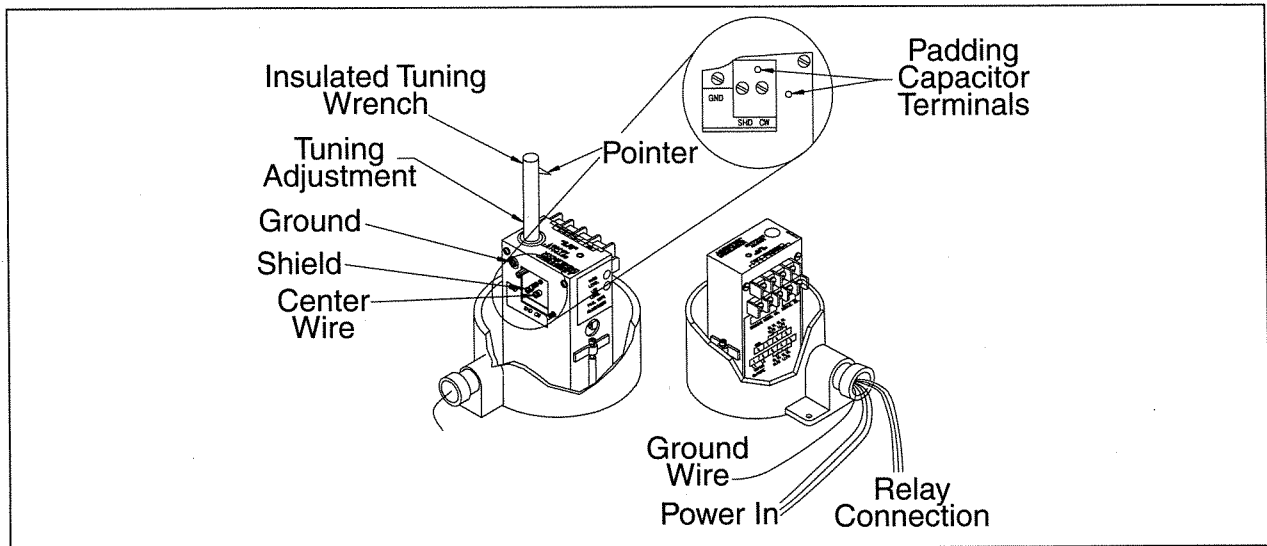

FIGURE 6-1
A. Disconnect the cable from the center wire (CW), Cote-Shield (SH), and ground (gnd) terminals at the instrument. Leave the power terminals at the instrument. Leave the power connected. See Figure 6-1.